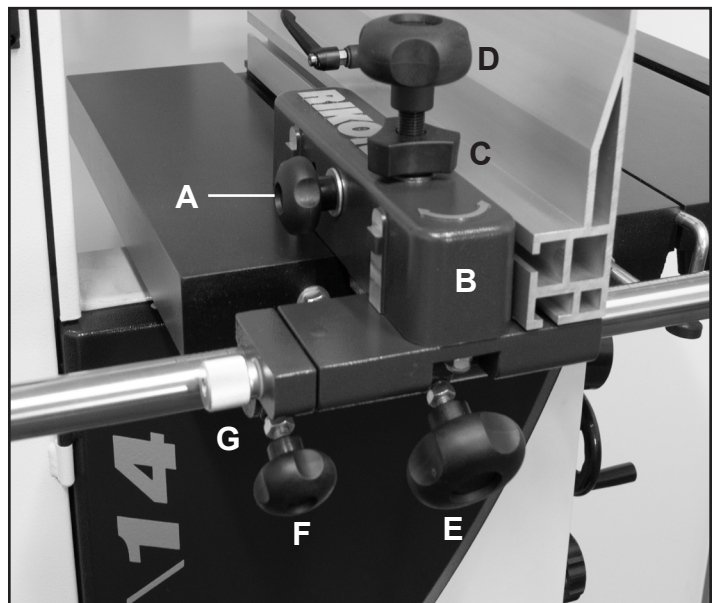

FIGURE 32
1. Loosen the side Handle (#1F, Fig. 32, A) which holds the rip fence against the Fence Carrier (#6F, B).
2. Loosen the Locking Knob (#5F, Fig. 32, C).
2. Leave the Locking Handle (#24F, Fig. 32, E) loose.
3. Tighten the Locking Handle (#25F, Fig. 32, F).
4. Turn the Micro-Adjusting Knob (#32F, Fig. 32, G).
5. Tighten Locking Handle (#24F, Fig. 32, E) to retain position.